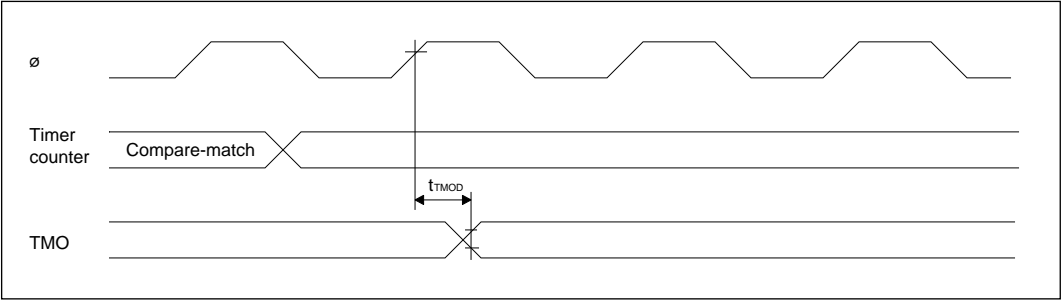

Figure 20-16 8-Bit Timer Output Timing
20.3.6 8-Bit Timer Timing	Figures 20-16 to 20-18